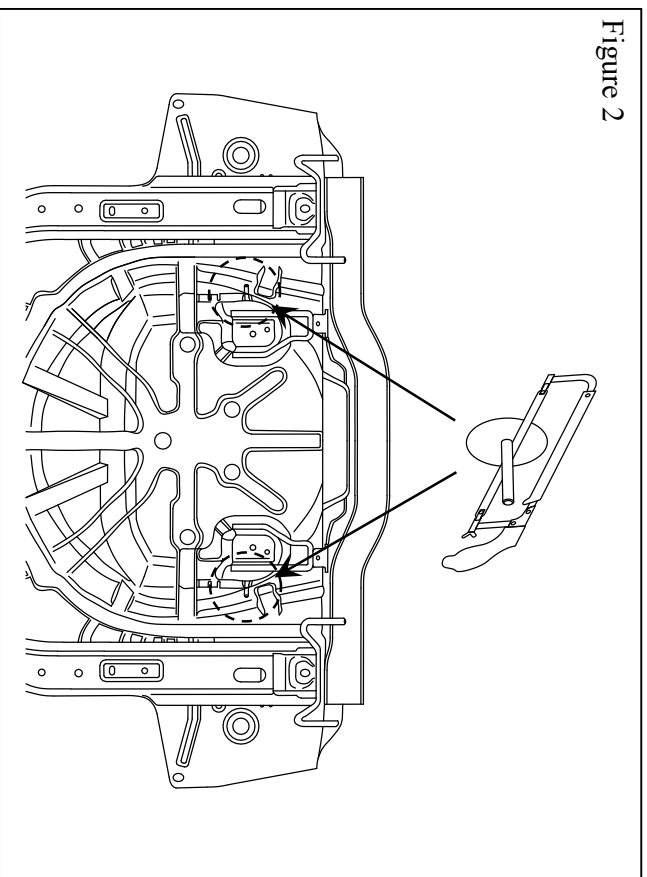

Figure 2
3. Cut off protruding bolts according to figure 2.